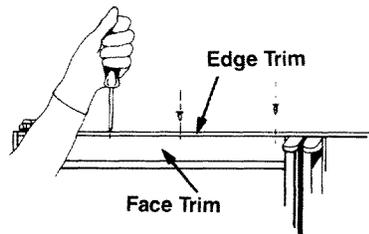
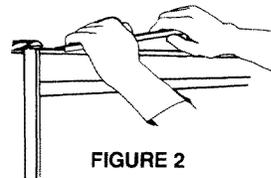

FIGURE 1
FIGURE 2
1. REMOVE THE FREEZER TOP DOOR EDGE TRIM PIECE. Remove the three screws holding the trim to the top of the door. See Figure 1. Remove the top door edge trim by sliding the top door edge trim to the right and lifting up. See Figure 2.